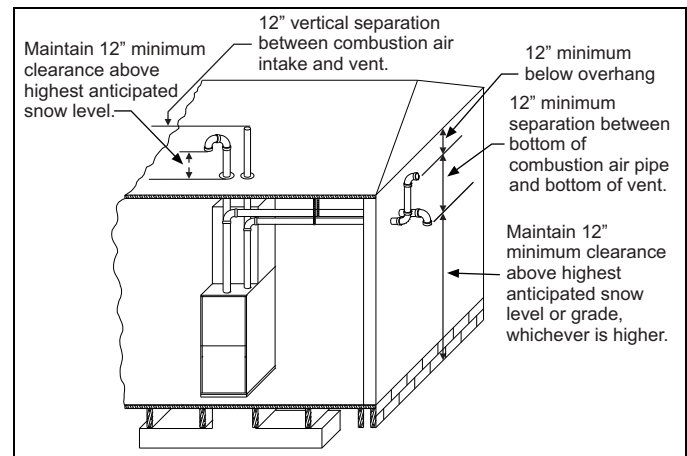

FIGURE 36: Termination Configuration - 2 Pipe
7. Direct vent systems must be installed so the vent and the combustion air pipes terminate in the same atmospheric zone. Refer to Figures 36 or 37.
The combustion air side of the two-pipe configuration shown in Figures 36 and 37 can be installed so the combustion air pipe terminates as described in outdoor combustion air or ventilated combustion air sections in these instructions. Follow the instructions for outdoor combustion air or ventilated combustion air and the instructions for installing the vent system with the vent terminating as shown in Figure 38 or 39. The two-pipe system must have a separate combustion air pipe and a separate vent pipe for each furnace. Under NO circumstances can the two combustion air or vent pipes be tied together. The combustion air and vent pipes must terminate in the same atmospheric zone.